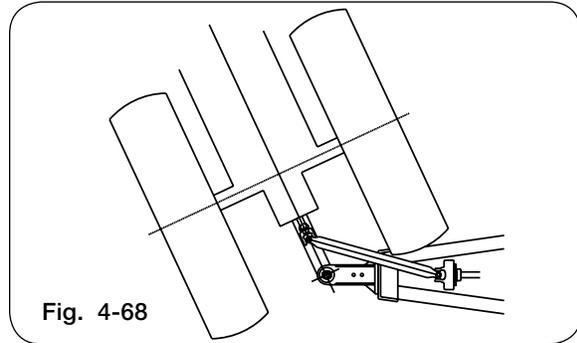

Fig. 4-68
6. Position the tractor to obtain the tightest turning angle, relative to the cart (Fig. 4-68).